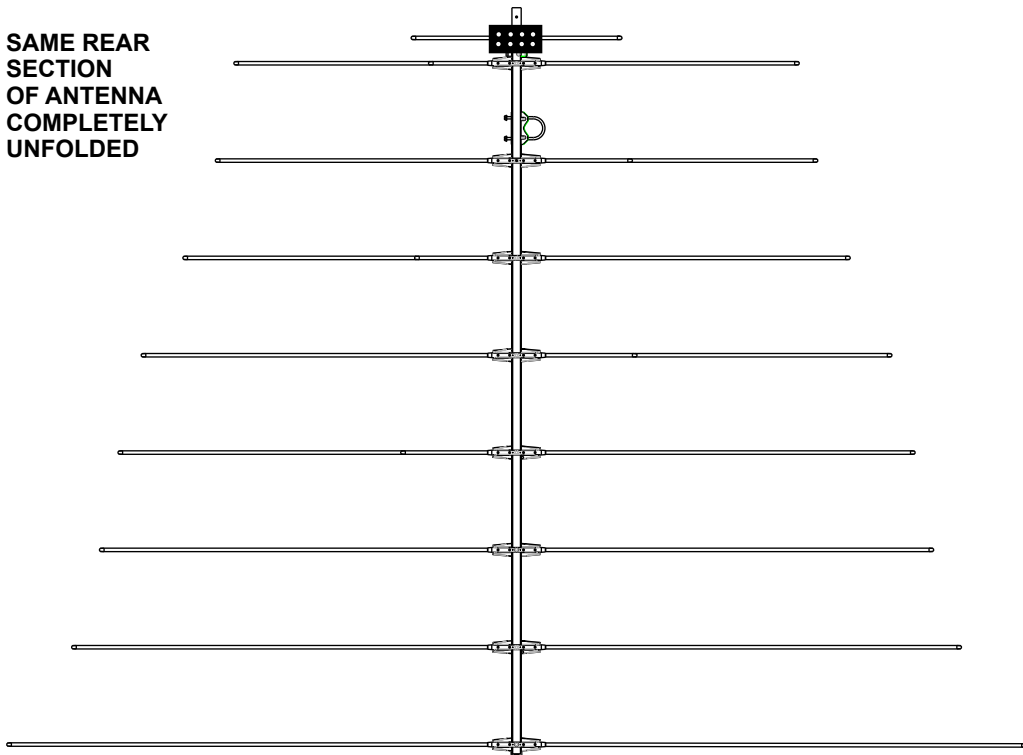

Fig. 2 REMOVE BOLT, HEX NUT AND DIRECTOR ELEMENT.
- C. Remove bolt, hex nut, and director element from front section boom. See **Fig. 2**.
- A. Slide the front boom into the rear boom making sure to feed the UHF phasing lines into the middle holes at the top of the cartridge housing and then into the slotted pegs inside the housing (see **Figure 2, 2A, 2B**). When finished, the phasing lines will be resting in the slots of the pegs but will not extend out of the back side of the cartridge housing. Reinstall the director element, bolt & nut. See **Fig. 2B**.